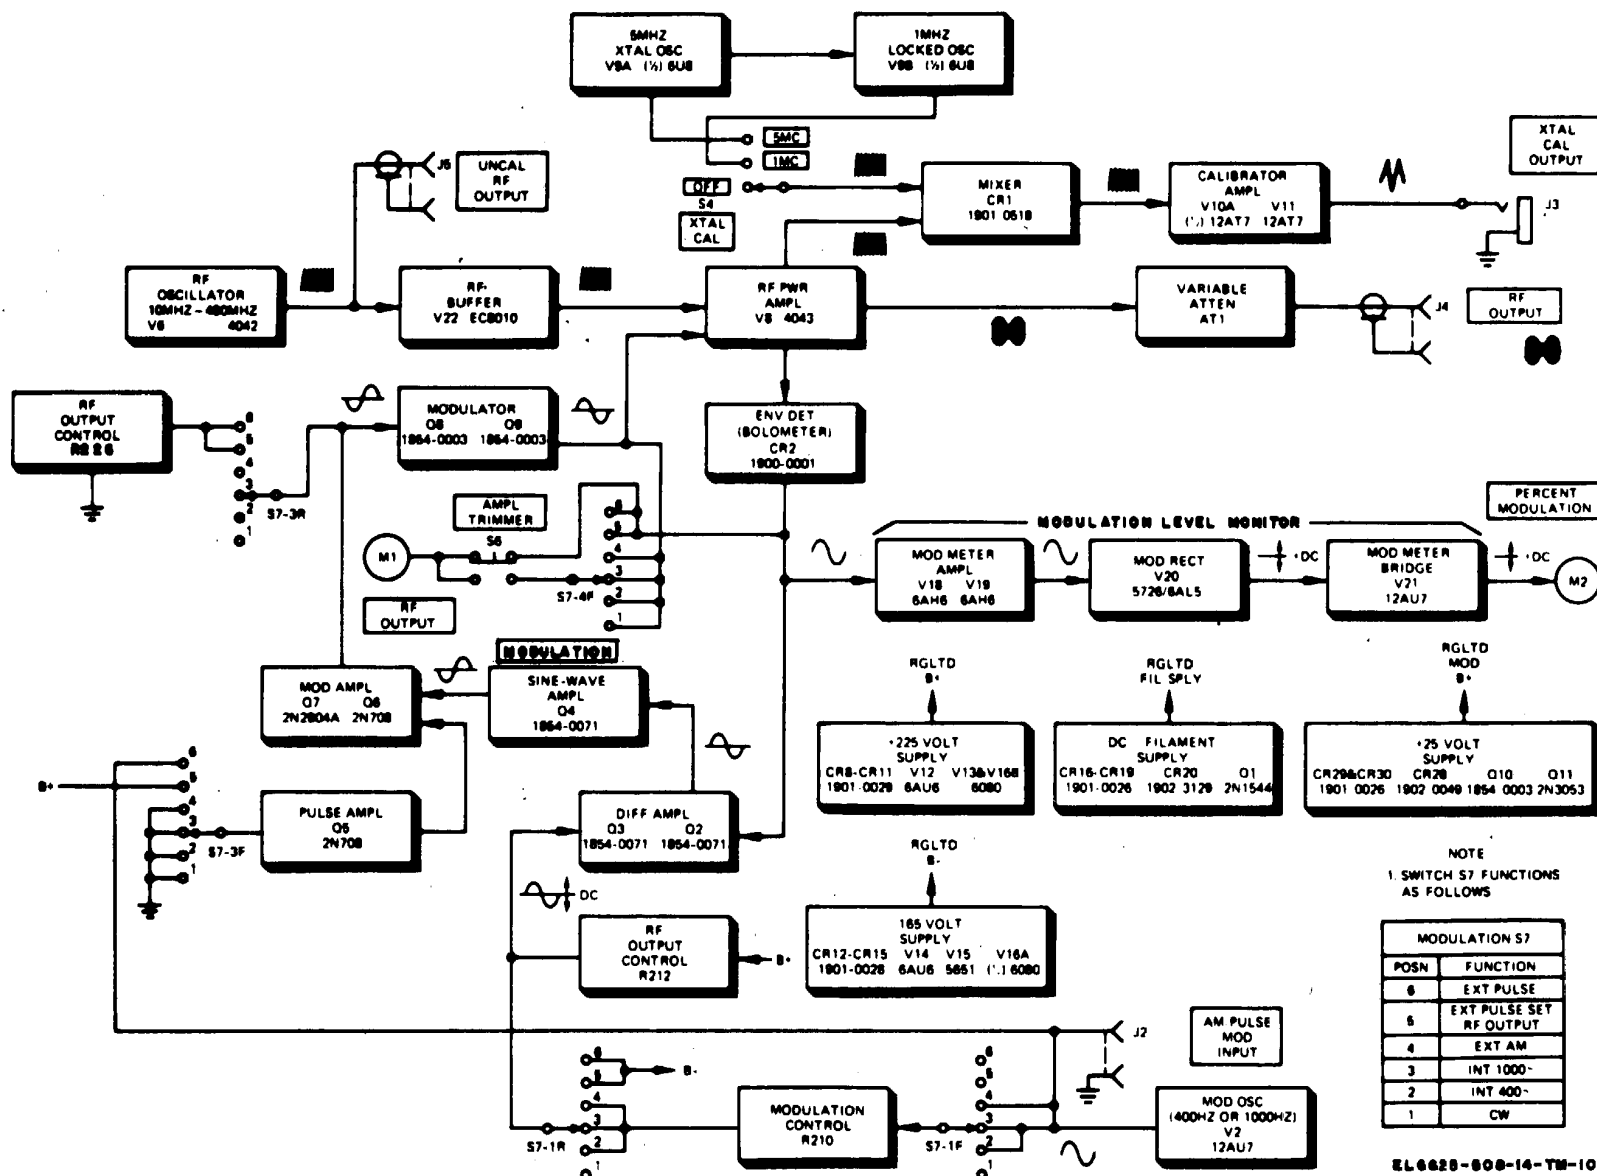

Figure 5-1. Generator, Signal TS-510B/U, block diagram.
a. Signal Generator. The TS-510B/U is a very-high-frequency rf signal generator employing a master oscillator-power amplifier design. The signal generator is used to test, evaluate and align radio receivers, filters, amplifiers, and other similar electronic networks. Signal paths and waveforms are shown on the block diagram figure 5-1, and are discussed in *b* through *i* below. For complete circuit details refer to over-all schematic diagram, figure FO-2.
Paragraphs 5-4 through 5-21 present a detailed analysis of each stage. To understand the general over-all function of all circuits in this equipment, periodic reference should be made to the system block diagram shown in figure 5-1, and to the complete schematic diagram (fig. FO-2).